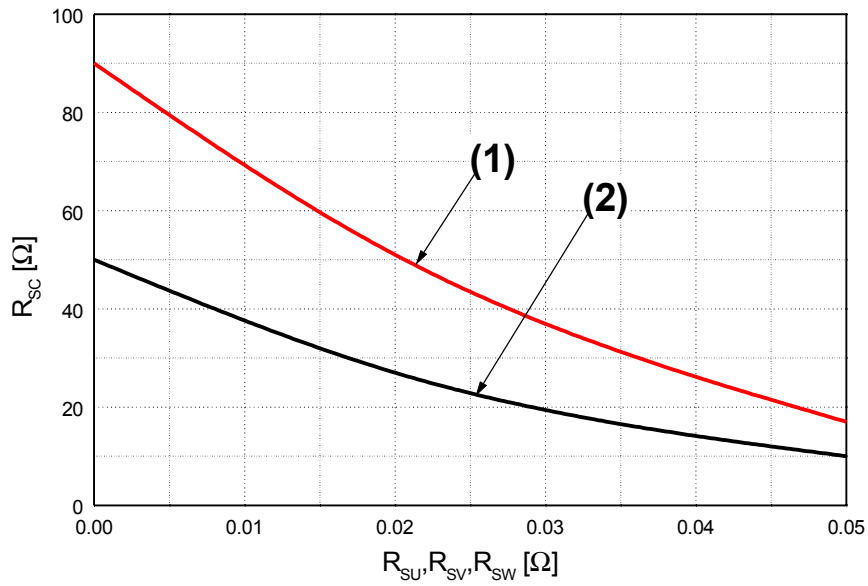

Fig. 7. R_{SC} Variation by change of Shunt Resistors (R_{SU} , R_{SV} , R_{SW}) for Short-Circuit Protection
- Short-circuit current protection is functioning only at the low-sides. It would be recommended that the value of the external sensing resistor (R_{SC}) should be selected around 50 Ω in order to make the SC trip-level of about 45A at the shunt resistors (R_{SU}, R_{SV}, R_{SW}) of 0Ω. For the detailed information about the relationship between the external sensing resistor (R_{SC}) and the shunt resistors (R_{SU}, R_{SV}, R_{SW}), please see Fig. 7.